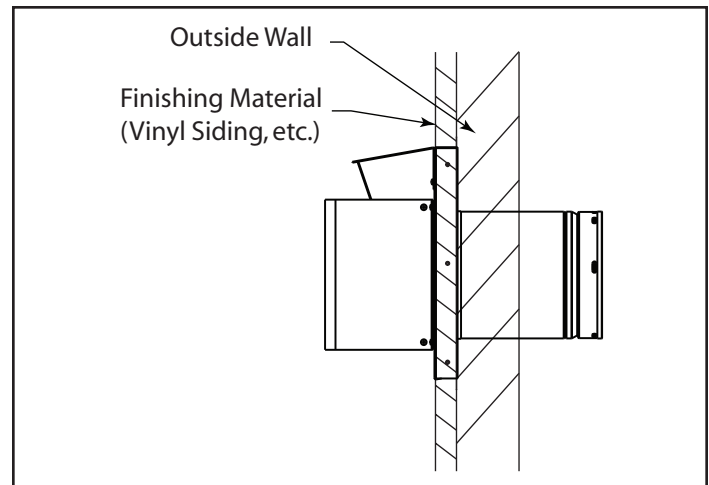

Figure 3.6 - Termination cap on wall
- Termination cap MUST NOT be recessed into a wall (see Figure 3.6).